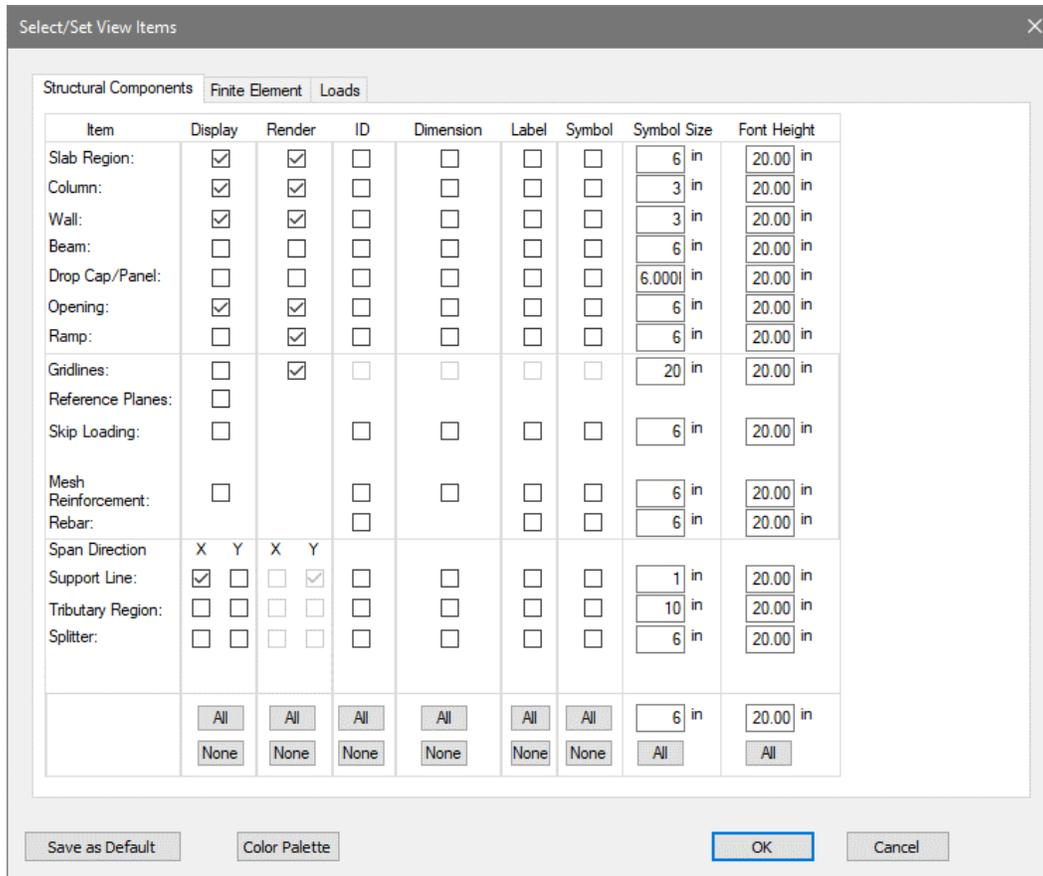

Figure 8-44
- On the *Structural Components* tab, make the selections as shown in **FIGURE 8-44**.